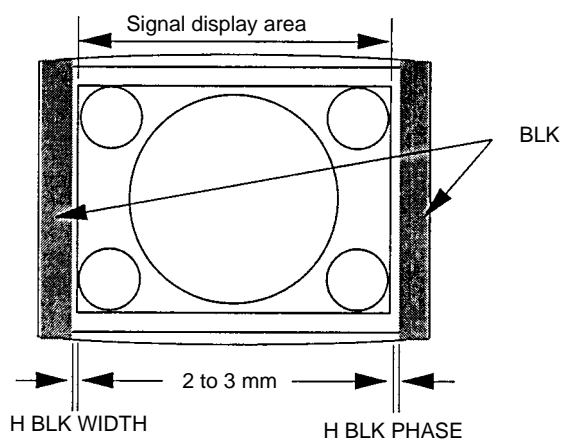

Fig. 1-7
9. Adjust the H BLK RIGHT data so that the horizontal blanking is positioned 0 to 2 mm outside the right end of the monoscope signal display area. (Fig. 1-7)
10. Adjust the H BLK LEFT data so that the horizontal blanking is position 0 to 2 mm outside the left end of the monoscope signal display area. (Fig. 1-7)